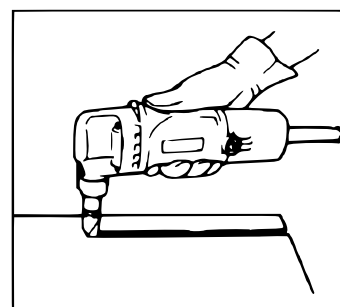

Figure 8
- **Method of die cut (Fig. 8):** Hold the electric tool to make the die cut chip at right angles (90°) to the workpiece being cut and push the machine slightly according to the cut direction.